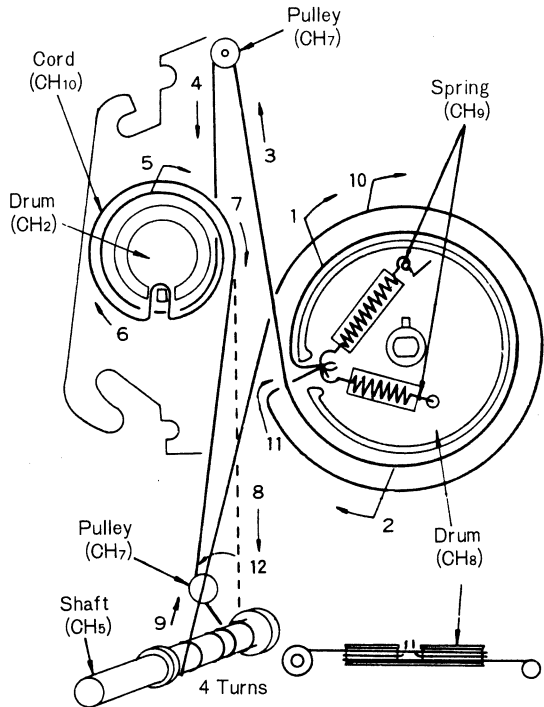

Fig. 5
4. Set each dial drum at the position, as shown in fig. 5.
5. Arrows (1~12) indicate correct order and direction of dial cord installation, as shown in fig. 5.